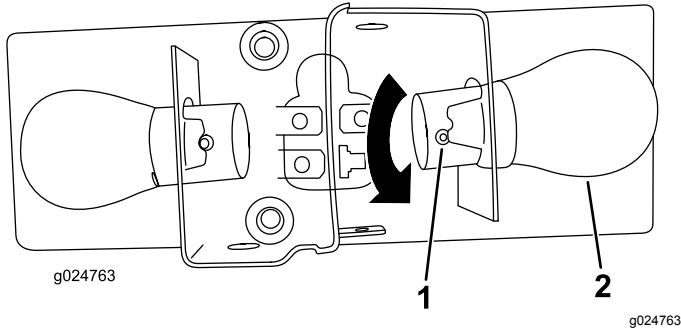

Figure 75
4. Pushing down on the pin on the light bulb, rotate the light bulb to the left, and pull the light bulb out (Figure 75).
6. Rotate the new light bulb to the right until the pin of bulb aligns with the slot in the light-bulb casing (Figure 75).